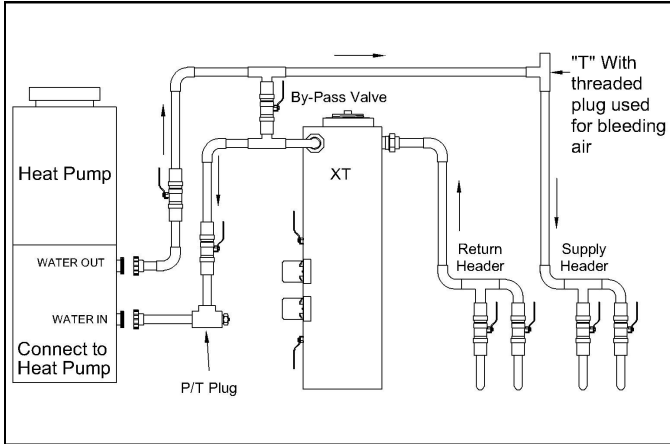

Fig. 2. Recommended Piping Schematic For Maximum Flexibility (Required With Internal Headers)
Fig. 2 Illustrates a recommended piping schematic that can be utilized when an internal header is used and separate purging of the heat pump and the ground loop is not required.
Piping is similar for either schematic with the exception of Fig. 2 showing all earth loops penetrating the mechanical area of the interior wall. Provide ball valves and P/T ports where indicated. Ball valves shall be same as pipe size or greater. The flow center should be fastened to the wall with the bracket provided and all piping should be adequately supported. All piping shall be properly sized for the flow rate (GPM) required by the system. Reduce pipe size only at flow center and heat pump as necessary to make connections.
3. Close all loop header valves except one pair (See Fig. 2).